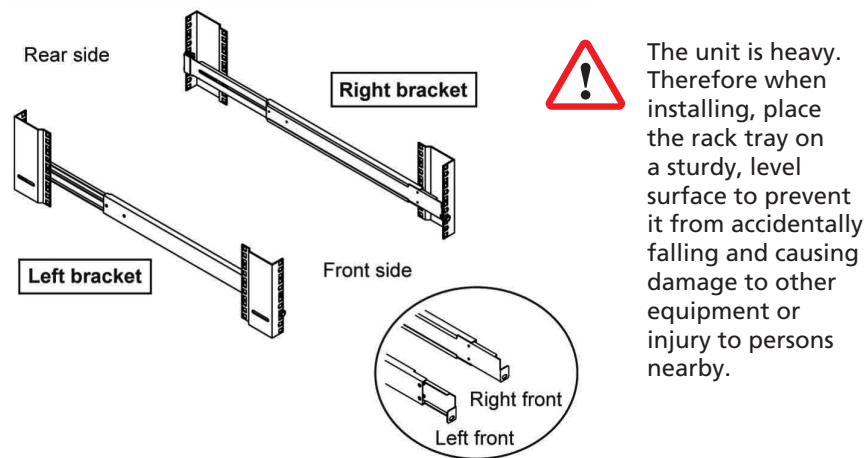

Figure 3-1. The mounting brackets.
- 1 Determine the appropriate position for the rack tray within your rack frame. Insert two of the supplied cage nuts in each of the rear vertical rack rails and one cage nut in the lower position of each front rack rail. See Figure 3-1.